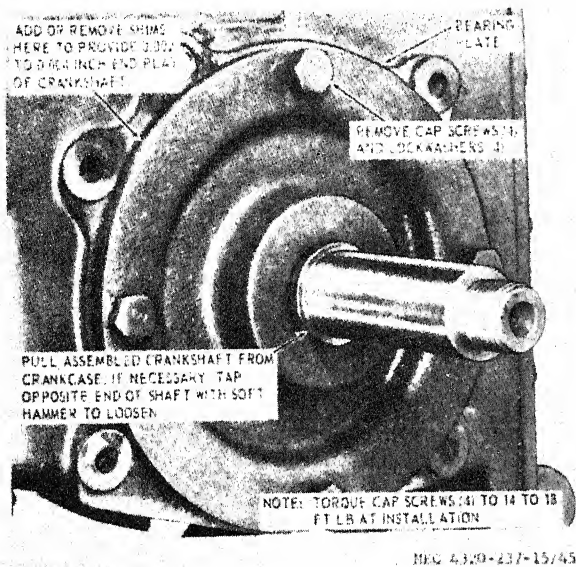

Figure 45. Crankshaft, removal and installation.
- (1) Remove the piston and connecting rod (para 96).
- (2) Refer to figure 45 and remove the crankshaft assembly.
- (1) Refer to figure 45 and install the crankshaft.